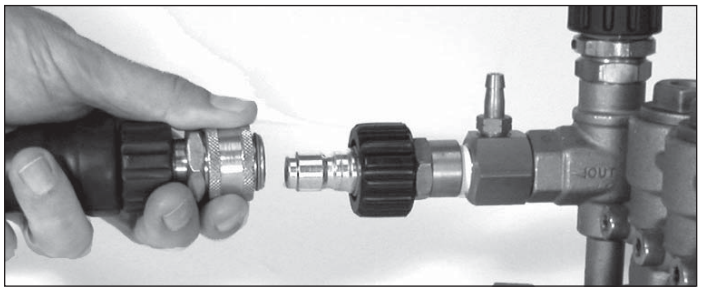

Figure 8 - Connect high pressure hose to pump
5. Connect the high pressure hose to the pump outlet (See Figure 8).